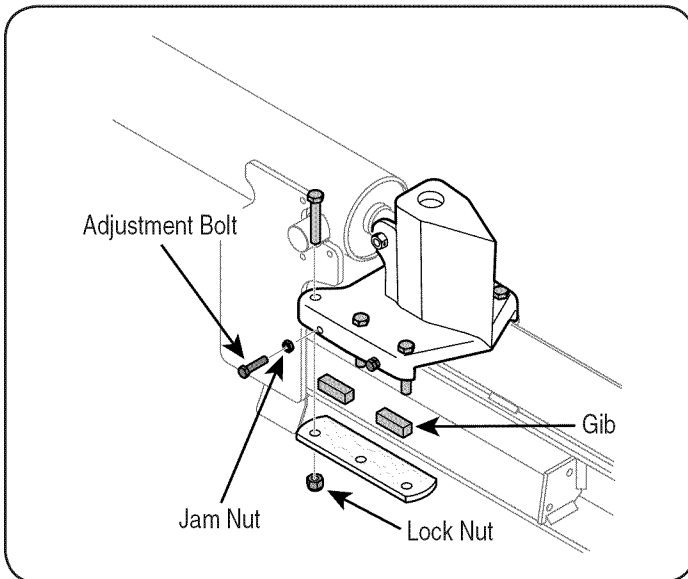

Figure 16
1. Loosen the jam nuts on the two adjustment bolts on the side of the wedge. See Figure 16.
1. Loosen the lock nuts under each back plate and slide the gibs out. See Figure 16.